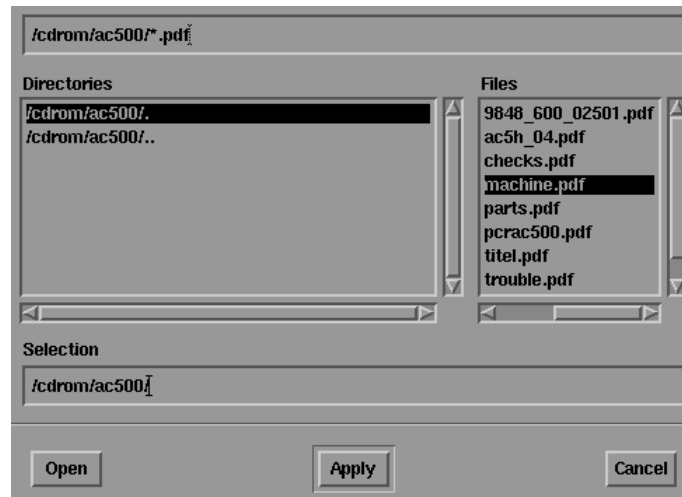

Figure 5: Acrobat Reader select File Window
- The documentation files available on this CD-ROM are listed in the 'Files' area on the right ( Figure 5)